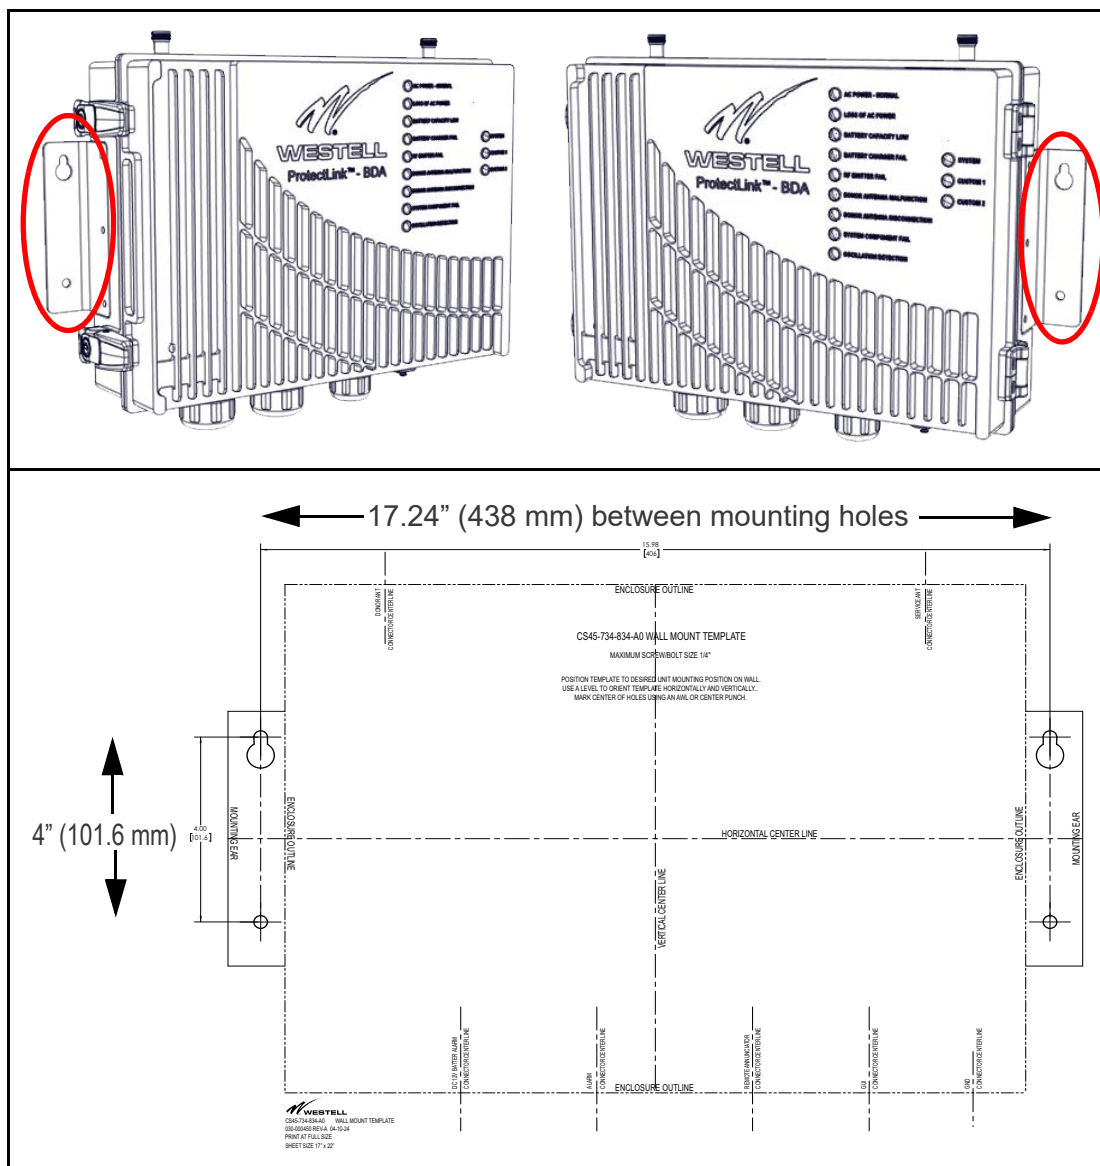

Figure 4-2 Signal Booster Mounting brackets (top, circled in red) and printable wall mounting template
1. Using the ProtectLink or a full size printout of Westell document 030-000450 NG-BDA-TEMPLATE as a template, mark the four (4) locations for the wall anchoring system screws (two per mounting bracket). See Figure 4-2.
3. Install a wall anchor (8mm x100mm) in each of the four (4) drilled holes.
4. Install the top four (4) screws into the anchors, leaving enough room to slide the screws into the oblong recesses in the tops of the unit's top mounting bracket openings.
5. Lift and hang the cabinet on the top two (2) screws, and finish fastening the top screws.
6. Install the bottom two (2) screws through the bracket openings into the anchors, fastening the cabinet to the wall.